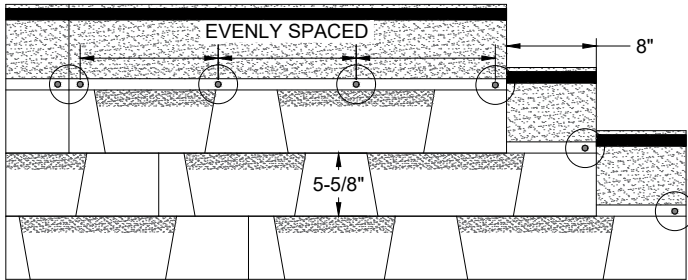

Figure 10 - Laminate, 4-Nail Fastening Pattern
Laminate Nailing Pattern: Under normal conditions, use four (4) fasteners for each full shingle. Fasteners must be placed in the nailing area approximately 1" (25 mm) in from each edge and the remaining fasteners evenly spaced between. Malarkey laminate shingles feature The Zone®, an enlarged, 1⁵/₁₆" (33 mm) wide nailing area that helps ensure correct fastener placement. (See Figure 10)